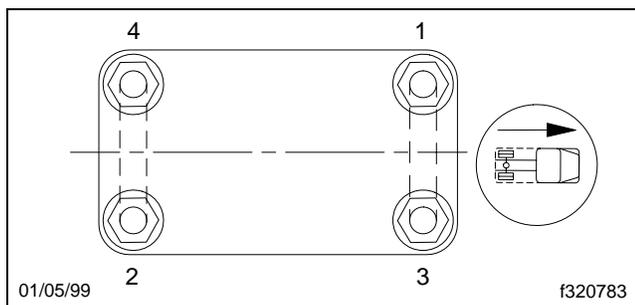

Fig. 2, U-Bolt Nut Tightening Sequence
- 19.3 Replace the second U-bolt on the left side, and evenly tighten the U-bolts 60 lbf-ft (81 N·m) in the sequence shown in **Fig. 2**.